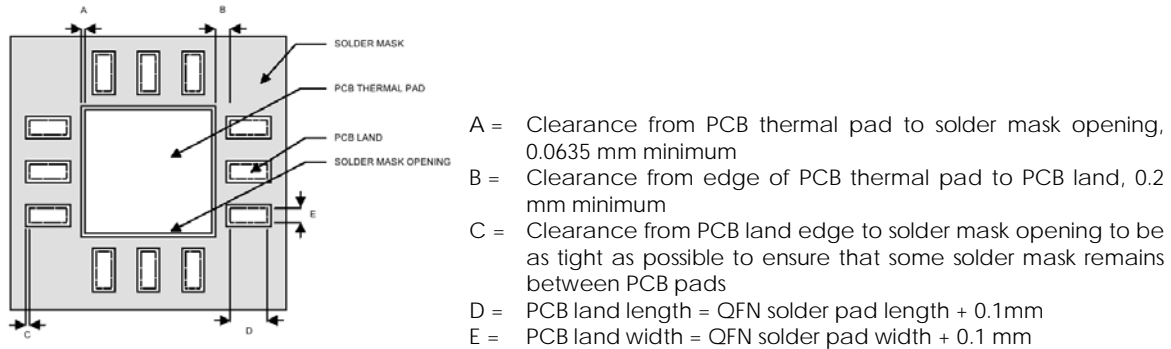

Figure 10 PCB land and solder mask recommendations
1. PCB land and solder masking recommendations are shown in Figure 10.